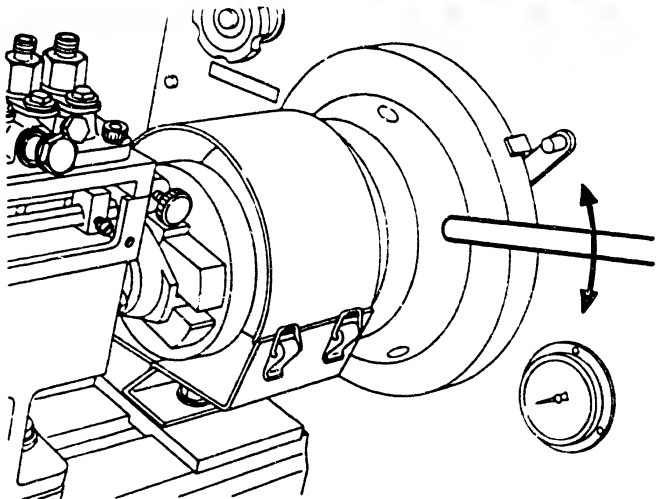

**Fig. 56 Attaching the injection pump**
1. Fill the driving stand's cam chamber with lubricating oil. (Figure 56)
4. Securely attach the injection pump to the holder using the socket head bolts. (Figure 56)